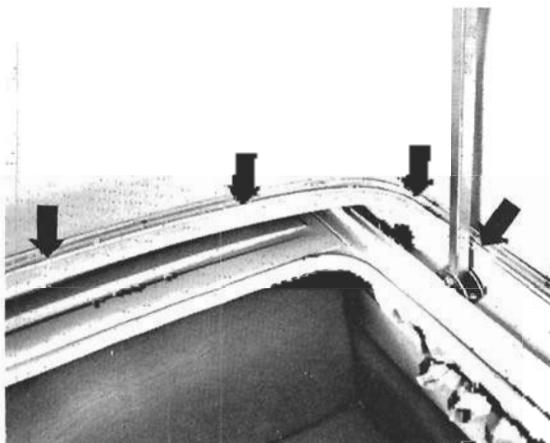

Fig. 7-30. Strips that hold the bellows on the body. Remove bellows as shown.
1. Remove the screws and detach the strips that hold the bellows on the roof panel (Fig. 7-30)